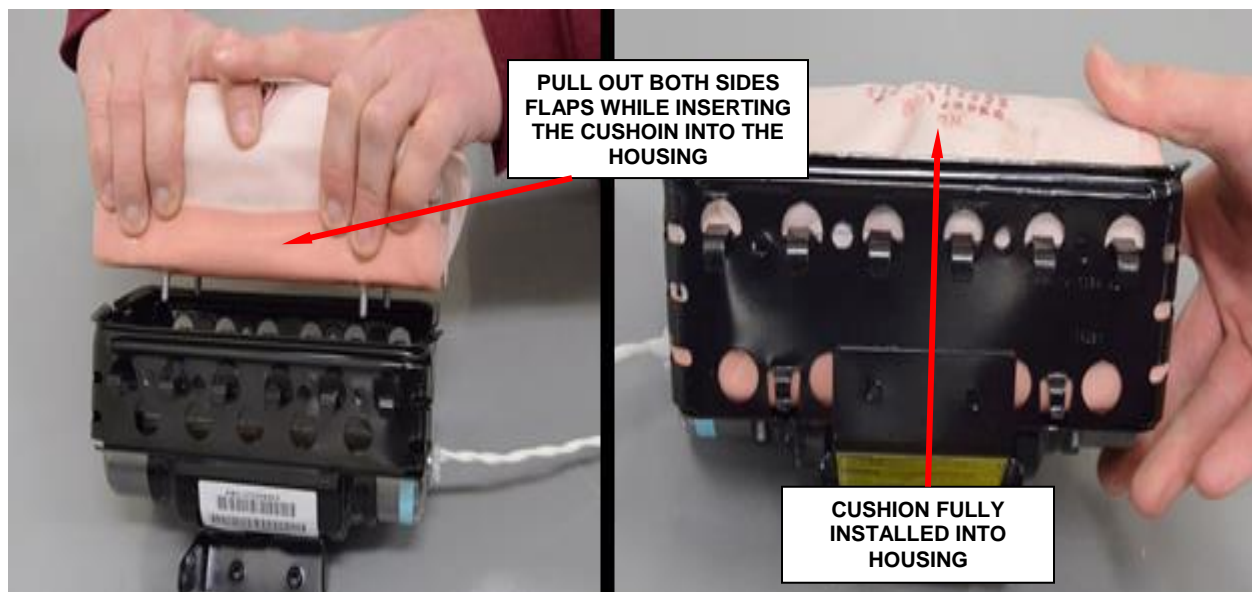

Figure 97 - Side Flaps Must Be Held Out
1. Insert the cushion, pulling out both side flaps (Figure 97).